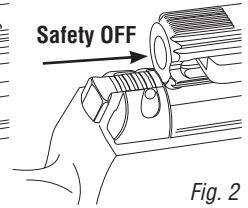

Fig. 2
- To remove the safety to 'OFF', push safety button. In this position, the gun is ready to shoot. (Fig. 2)